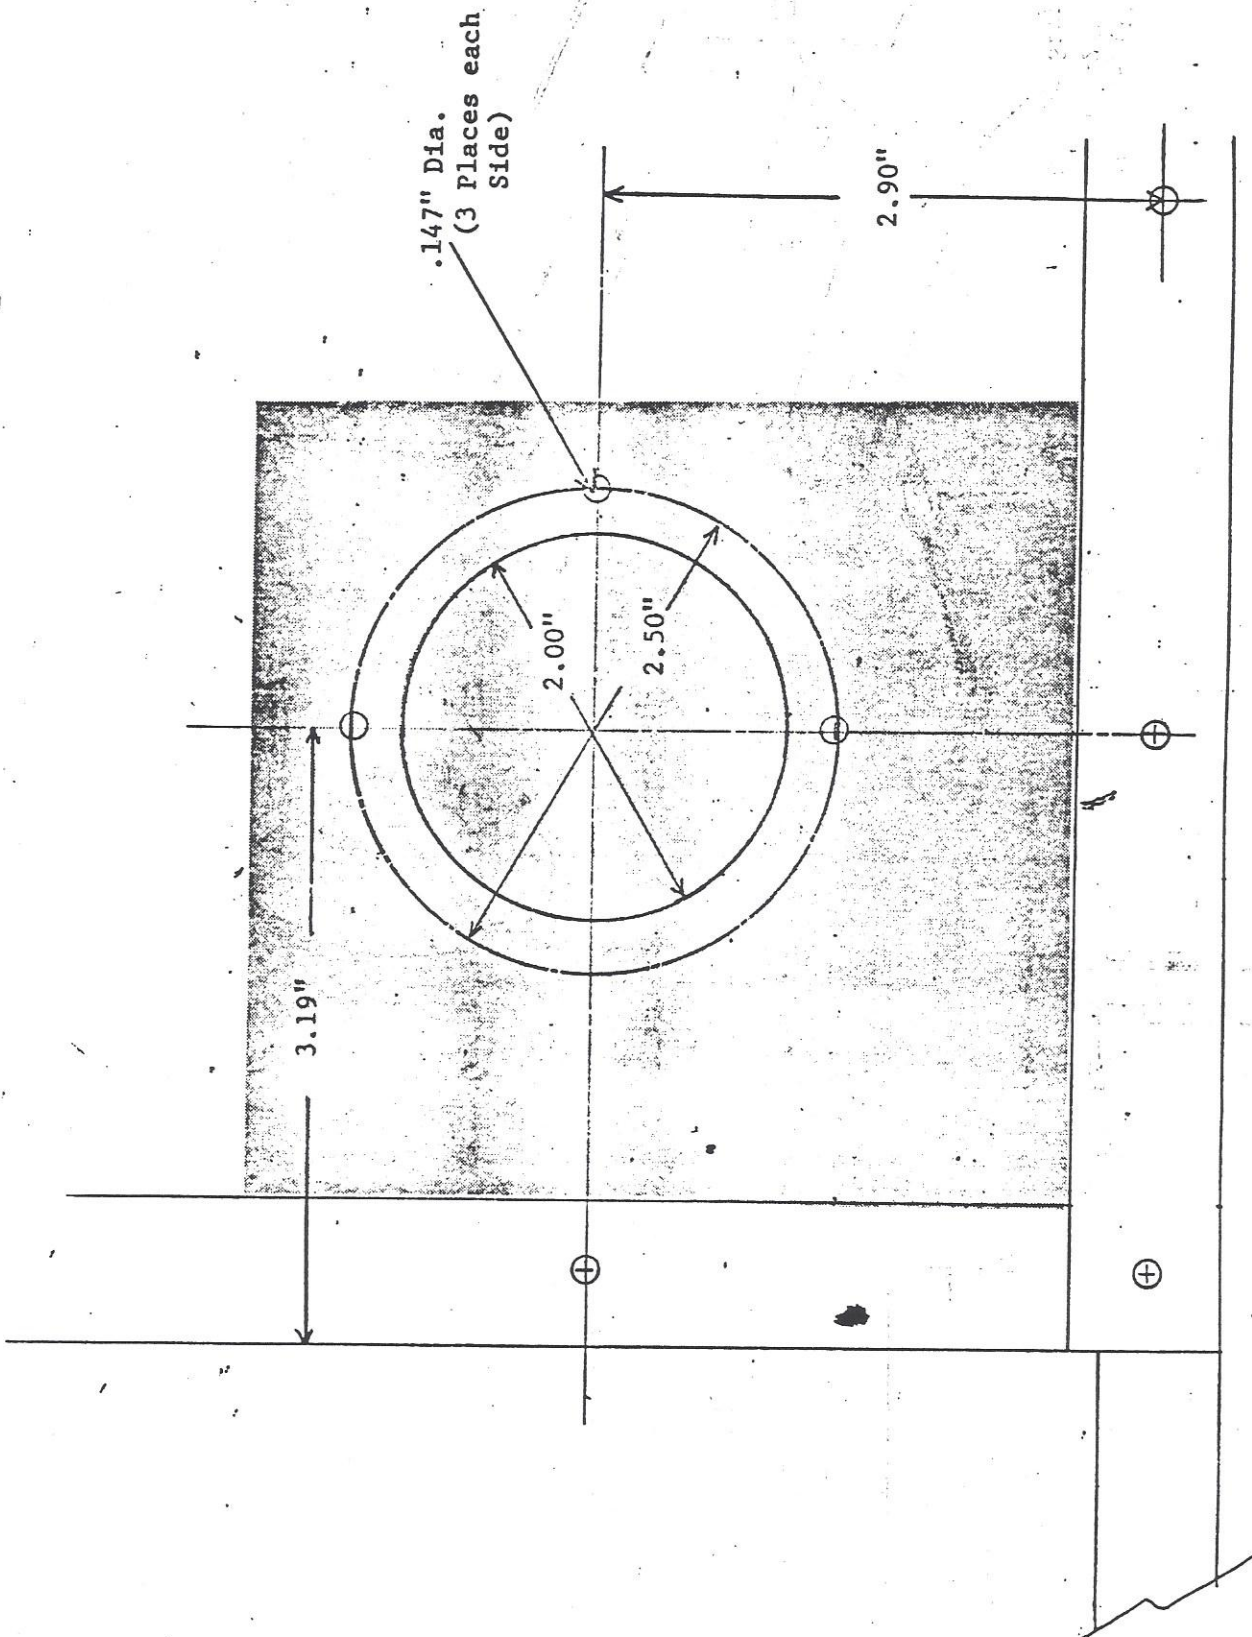

FIGURE 2
2. Locate holes as shown in figure 2. (Mounting holes can be located using valve for template after 2" hole is made.)